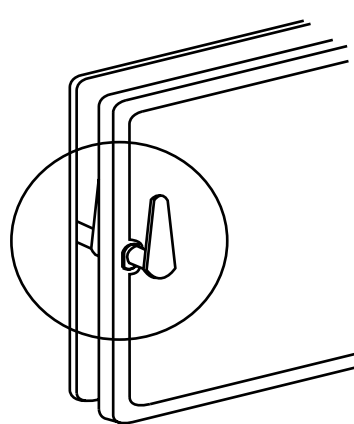

Fig. 11
2. Turn handle clockwise to the 12 o'clock position, pull the door open until you engage the second step (Fig. 11).